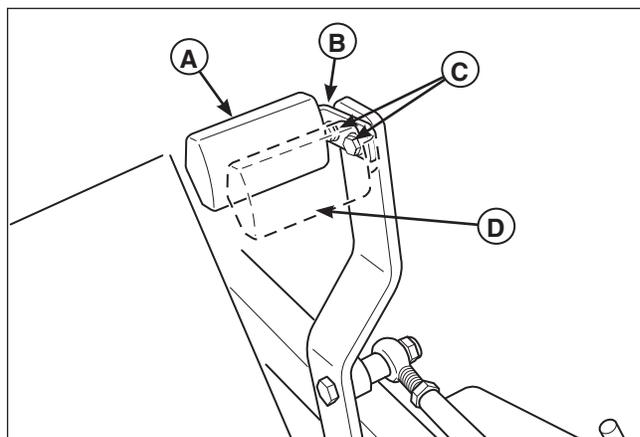

Figure 6. Foot Pedal Adjustment
1. Remove the foot pedal (A, Figure 6) from the pedal mount tab (B).
2. Remove the pedal mount hardware (C) and rotate the tab 180 degrees.
4. Reinstall the foot pedal on the pedal mount tab in the proper orientation as shown in Figure 6.